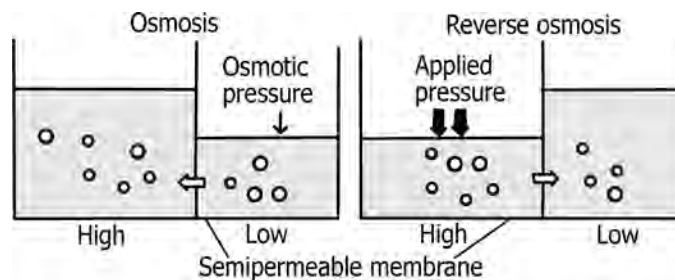

FIGURE 18.57 Osmosis and reverse osmosis.
- Figure 18.57 shows two compartments separated by a semipermeable RO membrane that allows water and some dissolved salts to pass through while retaining majority of dissolved solids. The concentration of dissolved solids in one compartment is higher than their concentration in the other.